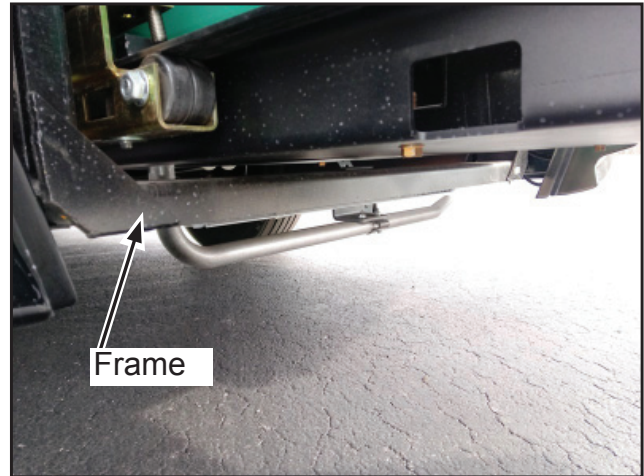

Figure 15
14. Release the primary generator slide-out tray latch and fully extend the generator to allow access to the stationary generator latch/catch mounting pad frame. See Figure 15.